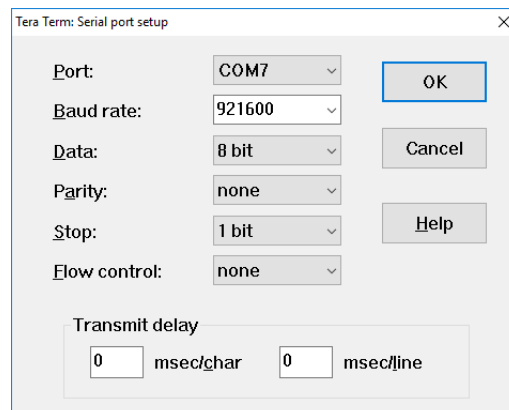

**Figure 6. OriginIoT™ Expander Cable to FTDI USB**
7. Figure 6. The FTDI connector is used for the debug console, whereas the ST-LINK is used for flashing the IoT module. Make sure to connect the FTDI connector to a USB port.